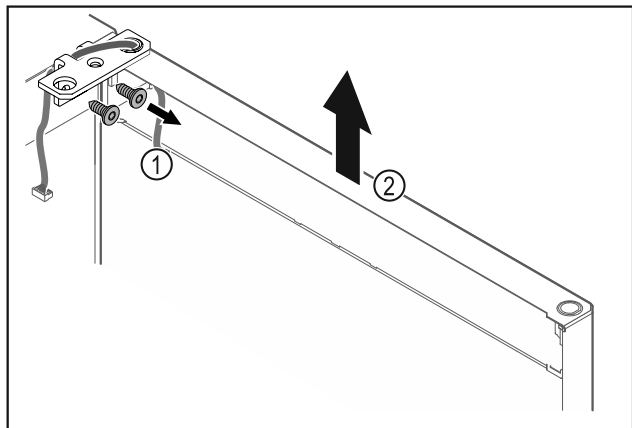

Fig. 27
- ▶ Unscrew the hinge Fig. 27 (1).
- ▶ Lift the door with the hinge straight up by Fig. 27 (2) roughly 200 mm and take it off.